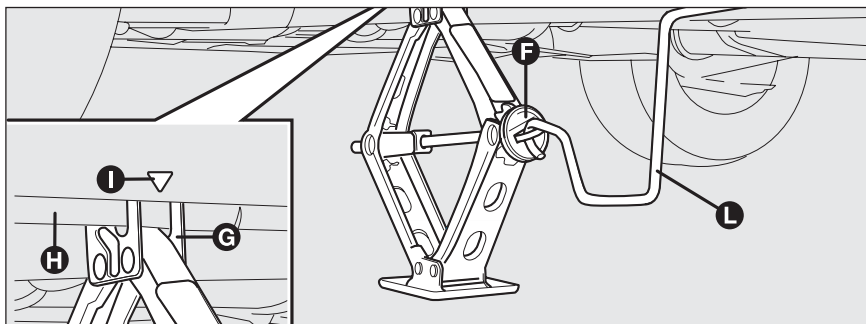

fig. 13
- ☐ operate the device **F**- fig. 13 to expand the jack, until the groove **G** on the upper part of the jack is correctly inserted on the lower edge **H** of the body at indication **I** (at approximately 60 cm from the front wheel centre or 80 cm from the rear wheel centre);
- ☐ fit the handle **L**-fig. 13 to operate the jack and lift the car until the wheel to be changed is several centimetres off the ground;